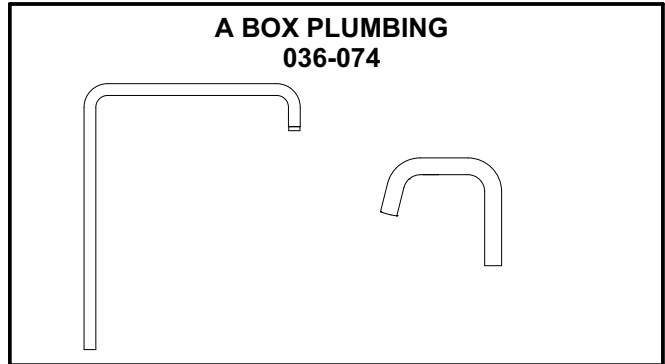

FIGURE 2
- 1- Use figures 2, 3, and 4 to determine the unit appropriate copper tubing provided in kit. Discard unused tubing.